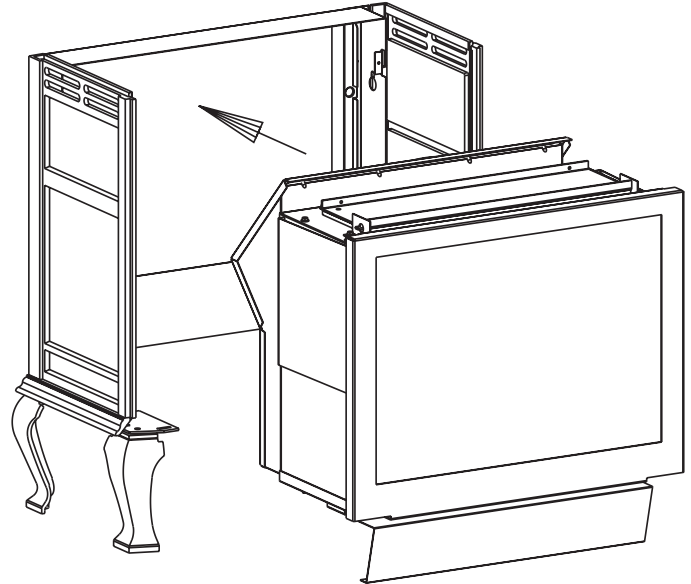
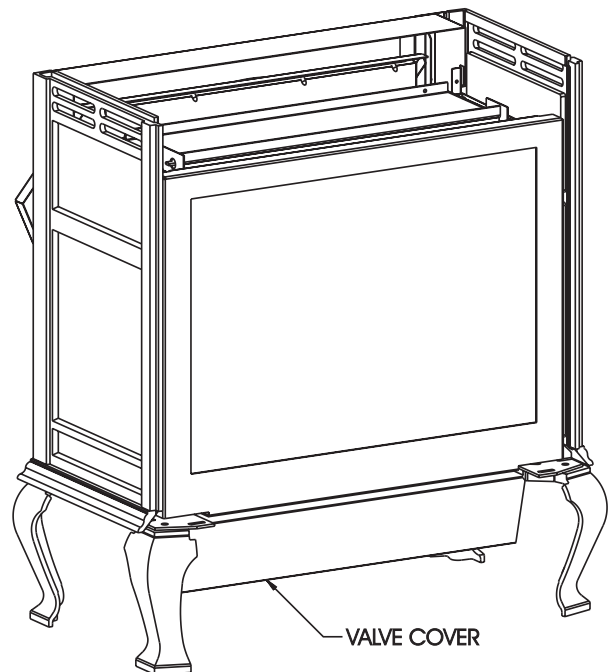

Figure 11
Figure 12
- E. Inserting firebox into partially completed assembly (Figure 11 and Figure 12).
12. The following procedure will provide a snug fit between the casting front and the casting sides. Grasp the right, front leg, push inward on the leg in order to provide a snug fit between the casting front and the casting side. Continue to hold the right, front leg as you completely tighten the (2) 3/8" bolts that attach the leg pad to the right, casting side. Repeat procedure for left, front leg to achieve a snug fit between the casting front and the casting side.
14. Refer to Figures 11 and 12, the appliance firebox can now be inserted into the casting. Center the firebox in the casting.